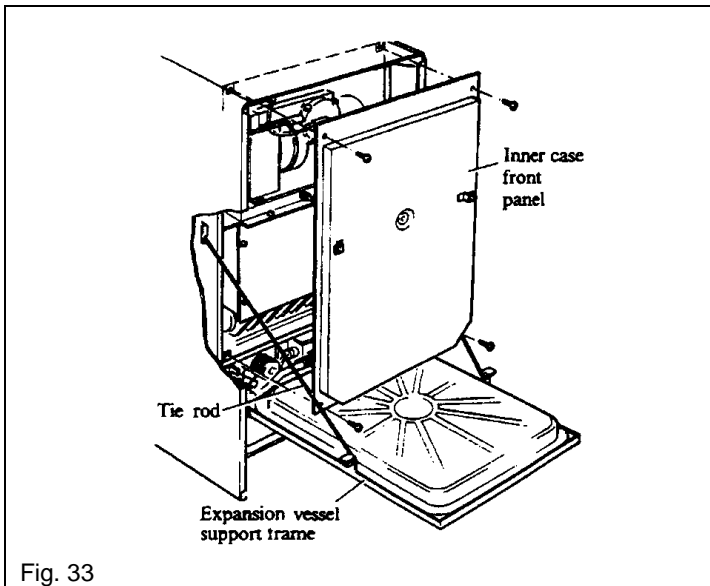

Fig. 33
5. Remove the two screws securing the fan assembly to the flue hood, see Fig. 33. Carefully slide the fan assembly away from the flue to disengage the flue tube sleeve from the flue. Withdraw the fan assembly, disconnecting the fan motor and pressure switch leads.
6. Remove the push rod assembly and the leads from the overheat cut-off device, see section 9.7, then remove the two screws at each side of the flue hood securing the blanking plates and lift out the plates. See Fig. 33.
7. All models except 80 - Remove the four screws securing the flue hood - two at the back (extended screws) and two at the front. See Fig. 33.